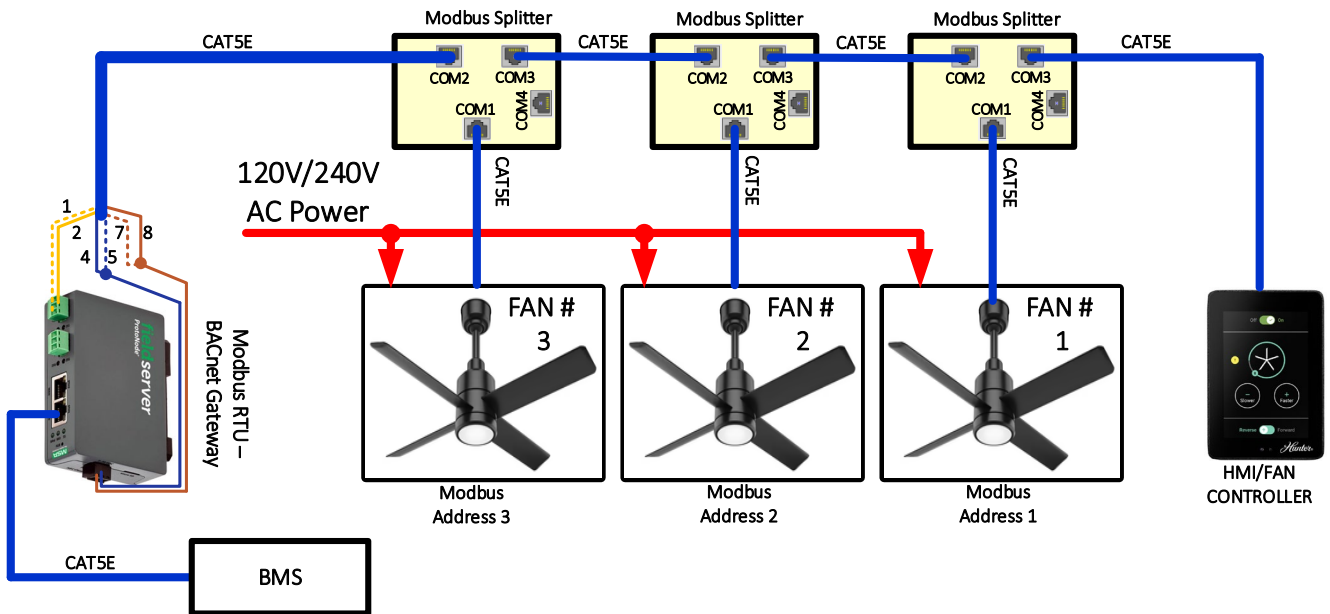

Figure 1 – Sample 3-Fans system connection.
- Whether the system is 1-Fan or Multi-Fan, each Modbus RTU fan interfaces with the ProtoNode Gateway via the Modbus Splitter's COM1. The Gateway is connected to COM2 (or COM3) of the Modbus Splitter, which includes both 24VDC power and RS485 signals from the fan. Figure 1 shows a 3-Fans system connection. Note: Only COM2 and COM3 of the Modbus Splitter have 24VDC output to supply power to the Gateway. COM4 has RS485 signals only. COM1 must be connected to the fan.